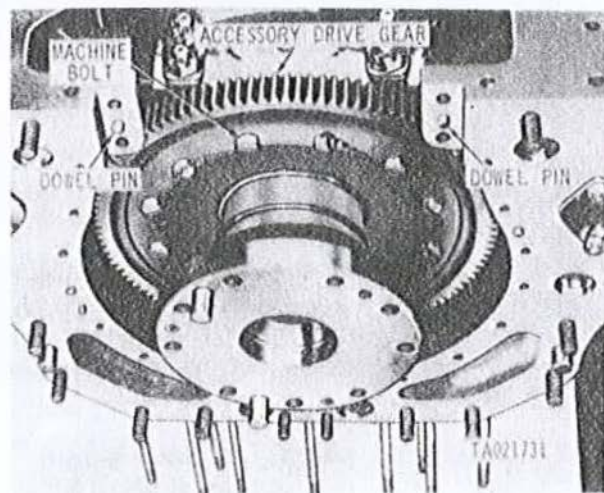

Figure 3-125. Removing or installing accessory drive gear mounting bolts.
h. Remove four capscrews and flat washers (fig. 3-125) attaching oil seal housing support to crankcase assembly. Remove support from dowel pins in crankcase and remove and discard candlewick packing.
i. Cut locking wire and remove twelve bolts (fig. 3-125) attaching accessory drive gear to flange on crankshaft. Install three 7/16 x 1-1/8 in. accessory drive gear mounting bolts (fig. 3-126) in tapped holes provided in accessory drive gear and alternately tighten bolts and pull accessory drive gear from flange on crankshaft. Remove puller bolts from gear.